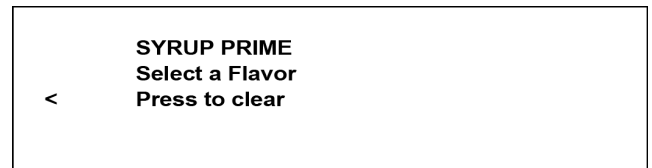

Figure-50
9. Press the Calibrate symbol  to enter the Syrup Prime mode. (See Figure-50.)